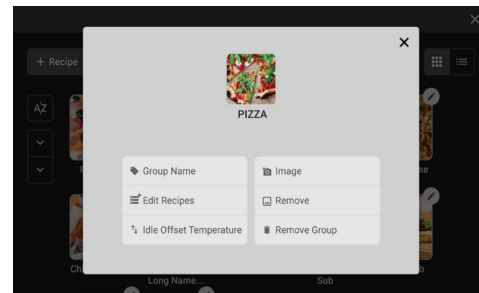

Figure 25: Edit Group Options
- Select an option (Figure 25, adjacent column).